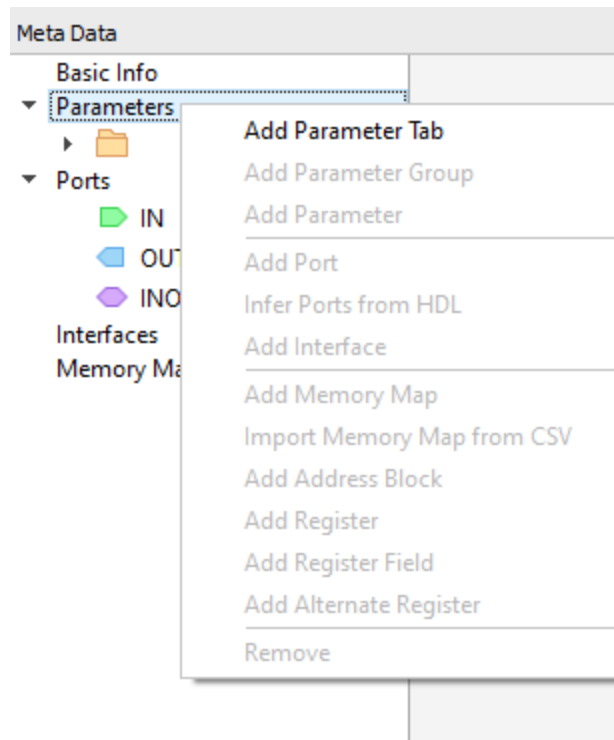

Figure 3.13. Right-click Menu of Parameters in the Meta Data View
- To add a parameter, right-click Parameters from Meta Data view and choose **Add Parameter Tab** (Figure 3.13). **Tab1** is created under **Parameters**.